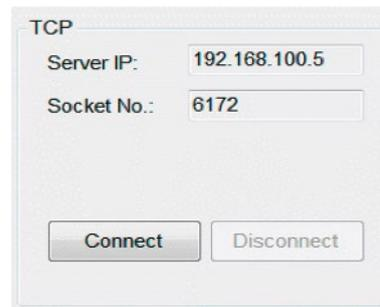

Figure 2: TCP area
11. Now click the «Connect» button in the TCP frame (Figure 2). If it does not connect immediately, click again until it successfully connects your MR3003\_RD.